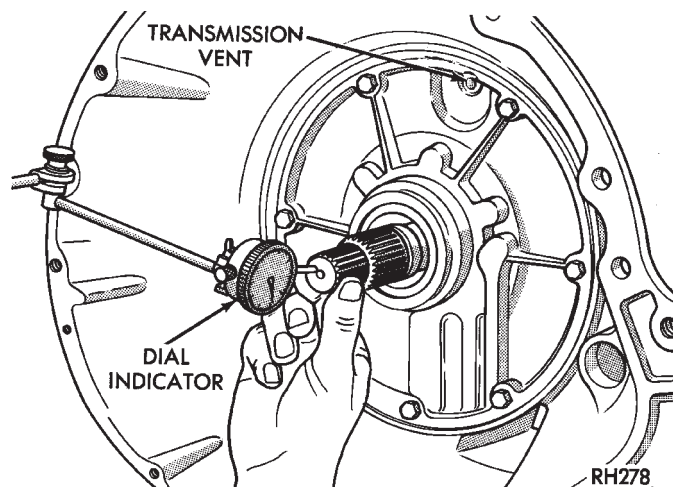

Fig. 154 Checking Input Shaft End Play
(1) Measure input shaft end play (Fig. 154).